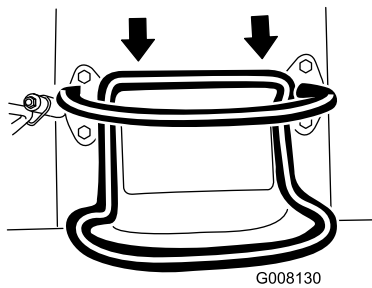

Figure 9
- To move rearward, move the traction control rearward (Figure 9). **When reversing, look behind for obstructions and keep your hands on the reference bar (Figure 7).**